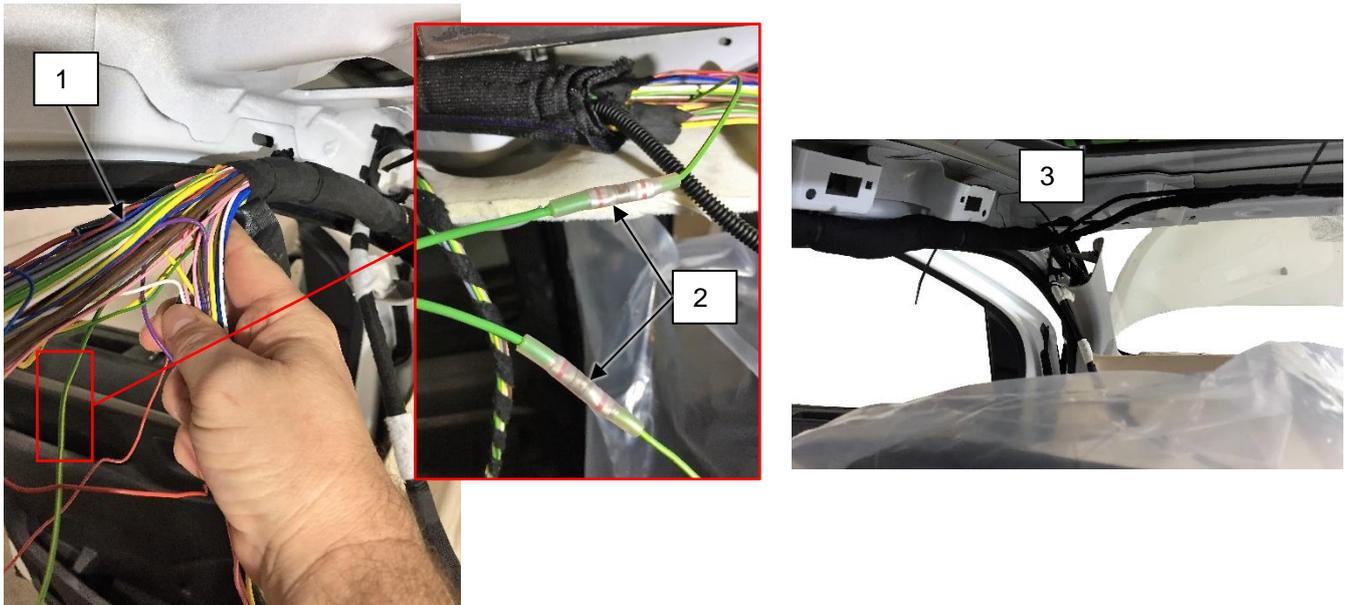

Fig. 1-1: Wiring harness routing
- Unwrap the wiring harness on the left as far as the A-pillar (see Fig. 1-1).
- Extend the green-yellow cable (2)
- Wrap the wiring harness again (3)
- Secure the wiring harness with cable ties at the original points above the windscreen and the doors (3)